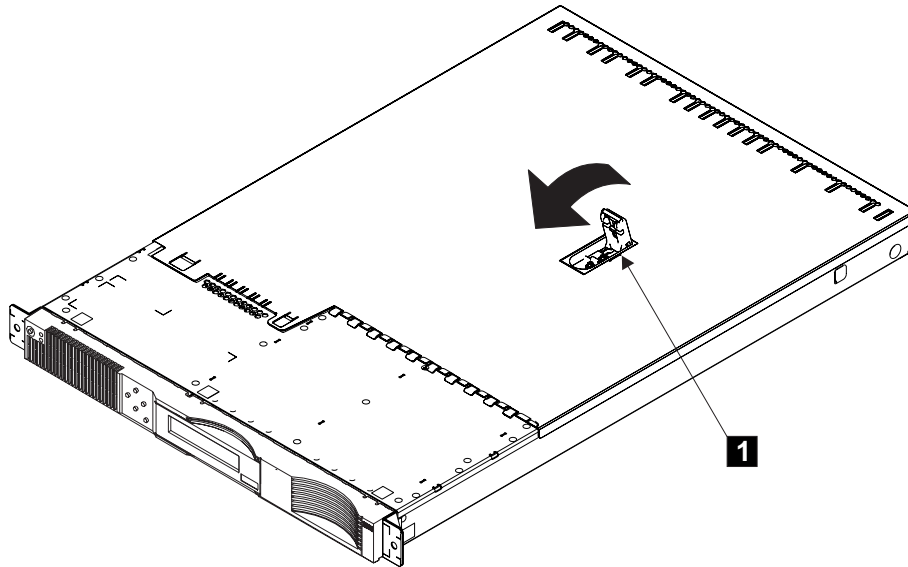

Figure 36. Installing the Top Cover
1. Ensure that the lever **1** is fully up. See Figure 36 on page 166.